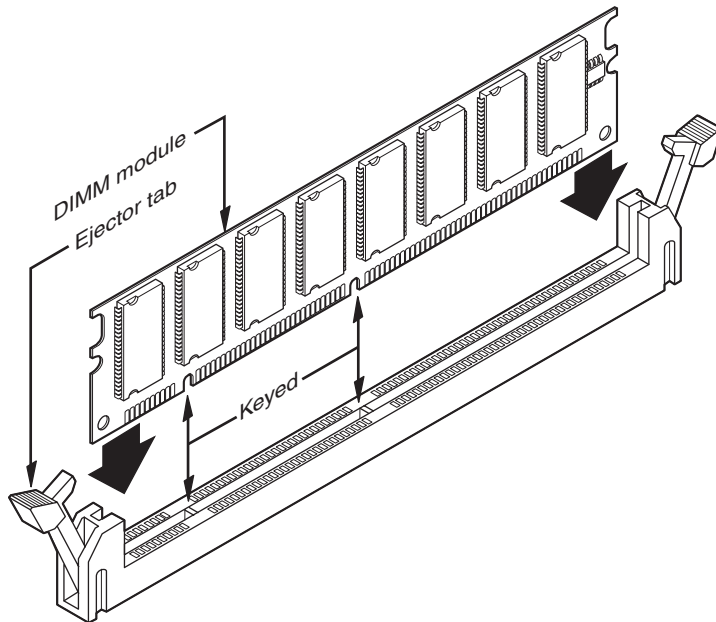

Figure 6.16 DIMM keys match the protrusions in the DIMM sockets. SDR/DDR/DDR2/DDR3 DIMM keys are similar but not exactly the same.
8. To insert a module into a socket, ensure that the ejector tabs are flipped down on the socket you plan to use. DIMMs are keyed by notches along the bottom connector edges that are offset from the center so they can be inserted in only one direction, as shown in Figure 6.16.